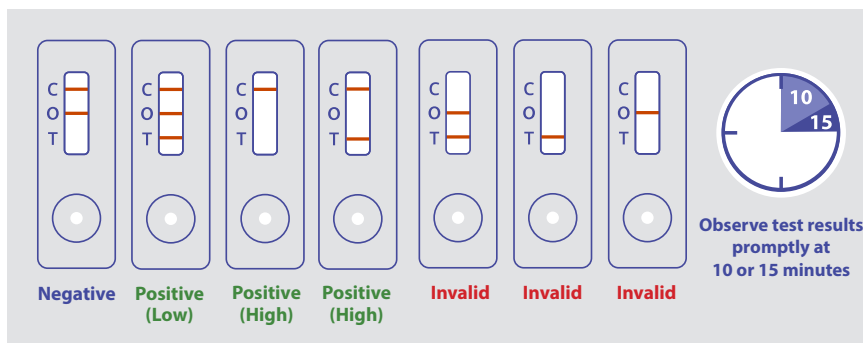

Figure 3. Interpreting Test Outcomes
**9.1.** A negative result is indicated by the development of a strong control line (C) and overload (O) line. An example of a negative result is depicted in **Figure 3** labeled "**Negative**".
**9.2.** Positive test results at lower analyte concentrations will result in the appearance of the test line (T) in addition to the overload line (O) and/or the control line (C). At higher analyte concentrations, the test line (T) and/or the overload line (O) will disappear, leaving only the appearance of the control line (C). Thus at high analyte concentrations, the disappearance of the overload line (O) indicates that the sample is positive for the analyte regardless of the appearance of the test line (T). Examples of positive results are depicted in **Figure 3** labeled "**Positive**".